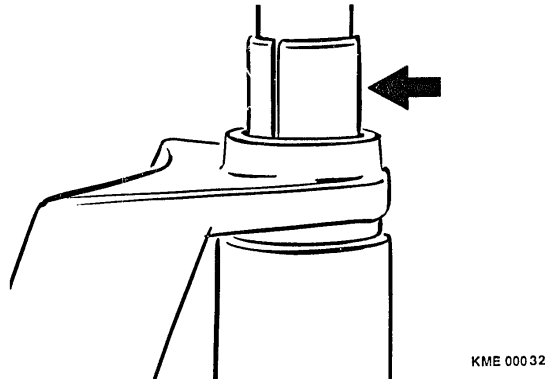

**Figure 29 Installation of Bearing and Seal**
3. Place tool KDLJ 6011 (Bosch Number 0 986 618 125) into bearing and press bearing into collector end shield. (Figure 29)
6. Place seal onto tool KDLJ 6011 and press the seal into the collector end shield. (Figure 29)